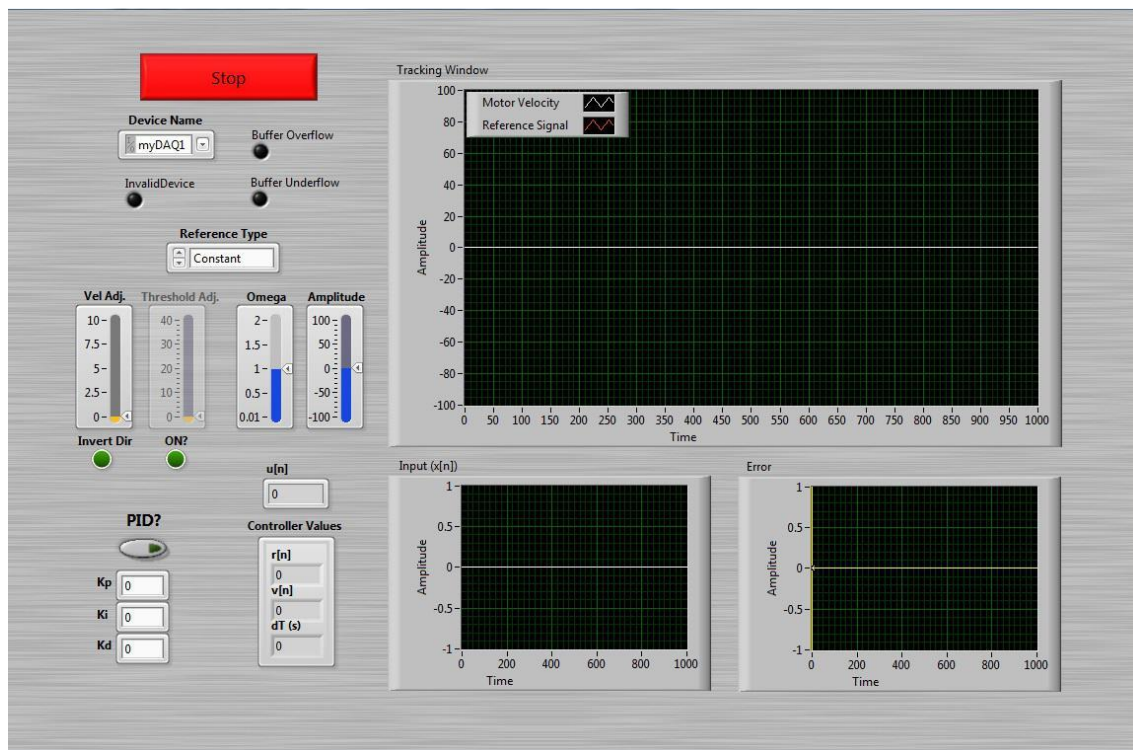

Figure 1: Screenshot of the VI after startup.
3. Verify that you get the startup screen shown in Figure 1 with no error messages.
2. Run the NI executable (application), Spring15-MotorControlsLab, that you downloaded from T-Square. Start the VI using the little white arrow at the top of the GUI. Select a device from the pull down menu and then make sure the "Invalid Device" LED is not lit up. The screen shot of Figure 1 should be similar to what you see. Use the big red "Stop" button to stop the VI, which will let you then close it. The "Stop" button also resets the myDAQ buffers, and is a good thing to do if the GUI does not seem to be working properly.